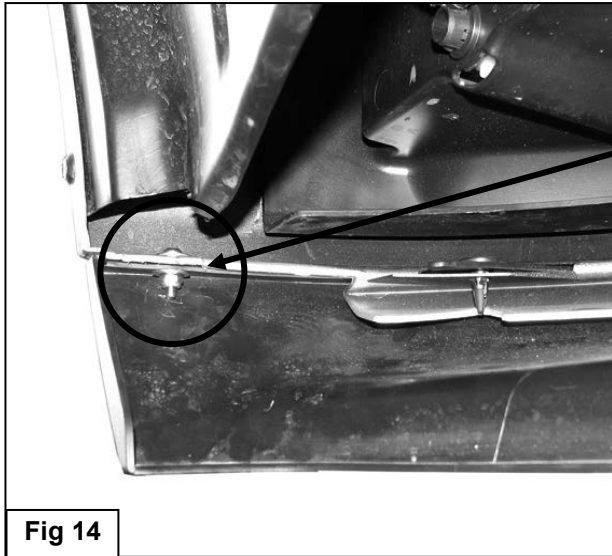

Fig 14
8. Reinstall the splash guard using the factory hardware. Use the included (2) 5mm x 15mm Allen Bolts, (4) 5mm Flat Washers and (2) 5mm Lock Nuts at the ends of the splash guard if required, (**Figure 14**).